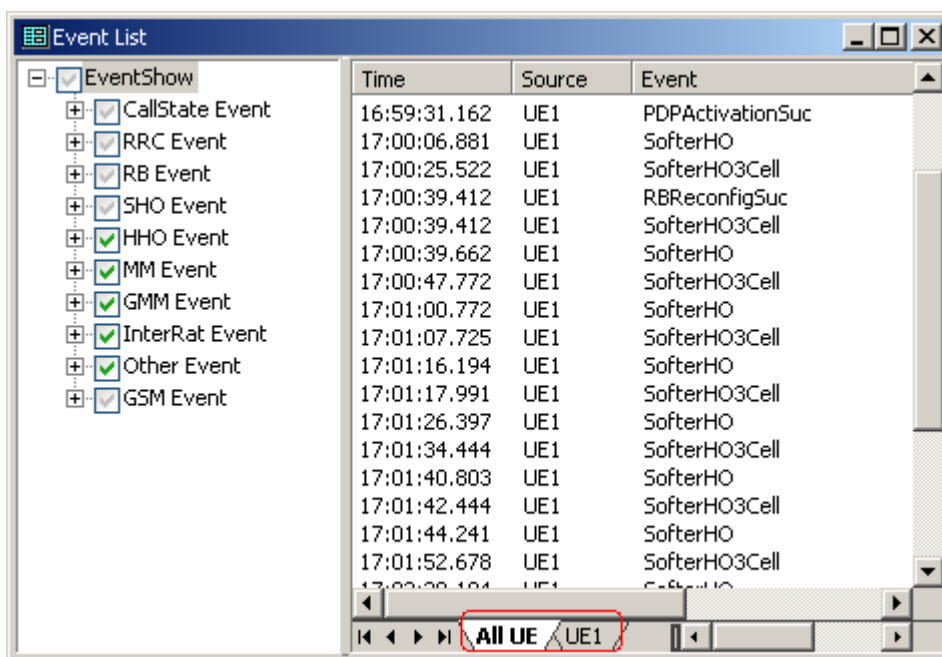

Figure 6-7 All UE tab
- In the windows **Event List**, **Information**, **Message**, only the information of one tab can be displayed at a time, as shown in Figure 6-7.